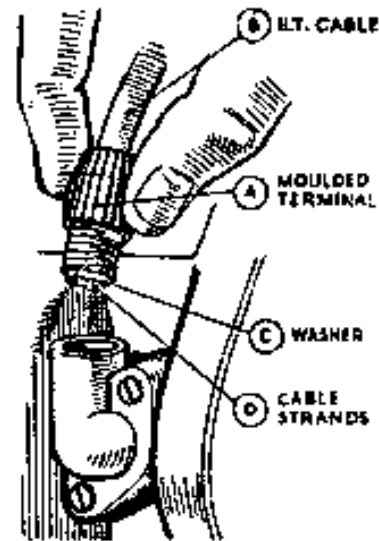

Fig. 48. Pick-up terminal.
Should be 7mm in diameter. Other sizes such as 5mm and 9mm will not fit in the immobiliser and suppressor. The cable must be replaced if the rubber insulation has perished or shows cracks and becomes brittle. To fit the new cable to the pick-up terminal (Fig. 48) thread the knurled moulded nut (A) over the lead (B), bare the cable for about 1/4", thread the wire through the metal washer (C) removed from the old cable and bend back the strands (D). Finally, screw the nut into its terminal.